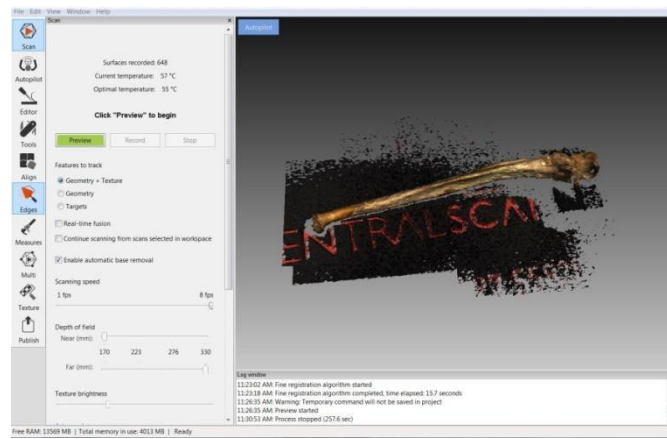

Figure 2. One scan of a right human ulna with noise (foam in the bottom recognized as an object by Artec Spider).
8. To scan, either push the button up a second time in Artec Spider, select  in Artec Eva, or click record on the software (Fig. 2, User Guide Artec Studio 11: 38-43). Remember to direct the scanner base (where the cameras are located) towards the bone for scanning. Scanning with Artec scanners can be done either by moving the scanner along the bone or fixing the scanner while moving the bone with a rotary table.